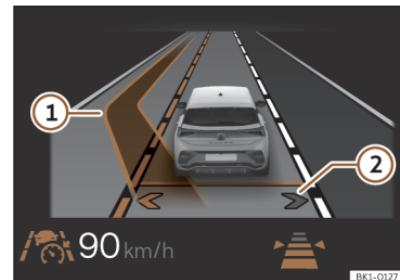

Fig. 136 On the instrument cluster screen: lane change assist display (schematic representation).
Lane change assist is activated. The arrows of your own lane on the instrument cluster display are grey **>>> Fig. 136 ②**
If the system detects no objects in the detection field of the sensor system and an assisted lane change to an adjacent lane is possible, the corresponding lane is shown in the instrument cluster display next to the driver's own lane. The arrow on the corresponding side of the lane is displayed in white **>>> Fig. 136 ②**.